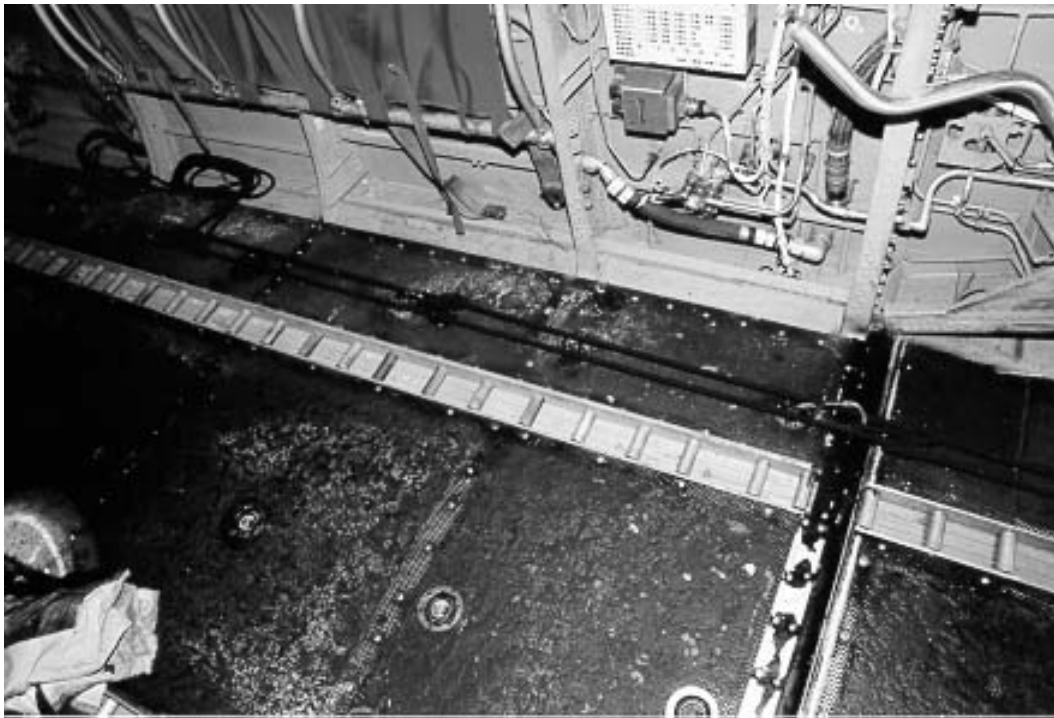

Figure 4-6. CH-46E Ramp Station Anchor Points
a. The Ramp Station. (Figure 4-6) The ramp rope station is rigged by utilizing the following knots, two Directional Figure Eights and a Double Figure Eight. The primary and secondary anchor points are secured with a Directional Figure Eight Knot and the tertiary anchor point is tied with a Double Figure Eight knot. All anchor knots are secured to cargo tie down rings by a closed and locked carabiner. The ramp will be padded to protect the ropes from becoming cut, as described in paragraph 1303.5 (a) (Padding). Additionally, the edges of the side of the ramp must be padded and taped. Personnel rappelling from the ramp rope station must ensure that they exit straight back from the ramp and not at an angle.
b. The Hell Hole Station (Figure 4-6). To rig the hell hole rope station, the external cargo hook assembly must be removed. The primary anchor point is the hell hole winch pulley support directly above hell hole). Secure the rope by tying a directional figure of eight knot, with the loop facing the anchor point. Twelve to fifteen feet from the standing end, attach it to a carabiner attached to the cargo hook assembly support. Use a locking carabiner. The remainder of the standing end is routed down and aft the port side of the aircraft. At this point, the secondary anchor knot is attached to a cargo tie down with a locking carabiner as previously discussed. The tertiary anchor point is tied directly aft of the secondary point and secured in the same manner. The entire edge of the hell hole will be padded or lined by forming a "grunt chute," as described in paragraph 1303.6 (a) (Padding).